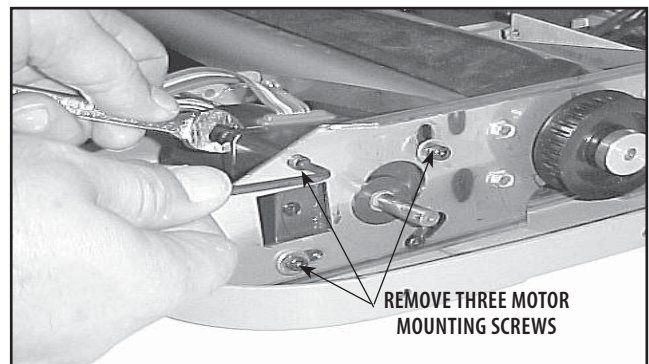

FIGURE 6.6
6. Remove the three Motor Mounting screws using the 9/64" Allen wrench and remove Motor from unit. **Refer to Figure 6.6.**